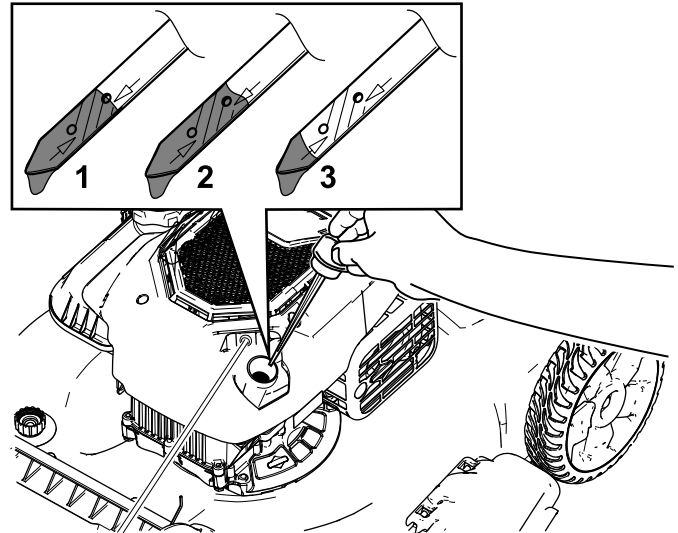

Figure 21
3. Remove the dipstick by rotating the cap counterclockwise and pulling it out (Figure 21).
10. Read the oil level on the dipstick (Figure 21).